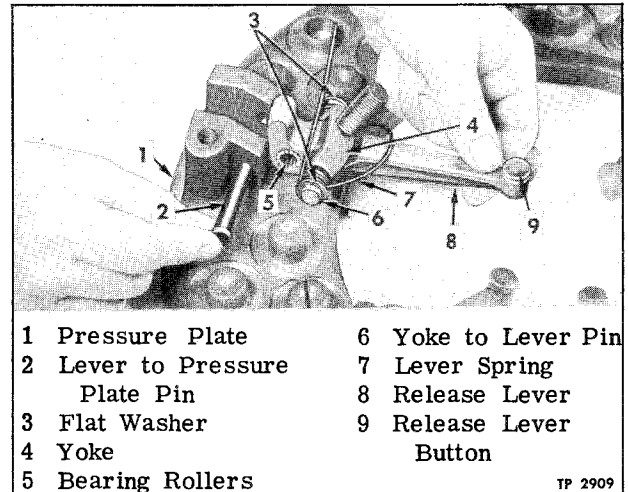

Figure 9—Assembling Clutch Release Lever To Pressure Plate
1. Assemble adjusting yokes (10) and springs on clutch release levers as follows:
b. Lay lever (13) on flat surface and insert a pilot pin in each hole. Apply light coat of release bearing lubricant on needle rollers referring to LUBRICATION (SEC. 13) for correct lubricant. Insert rollers (5 and 8) around pilot pins, then put adjusting yoke (10) in position with spring (12) straddling yoke. Place flat washer (46) on pin (8) then push pin through spring, yoke, and lever, thereby pushing out pilot pin. Assemble washer (46) and cotter pin to retain pin (8).
c. Position lever and yoke assembly at pressure plate, then install pin (fig. 9) and retain with cotter pin.